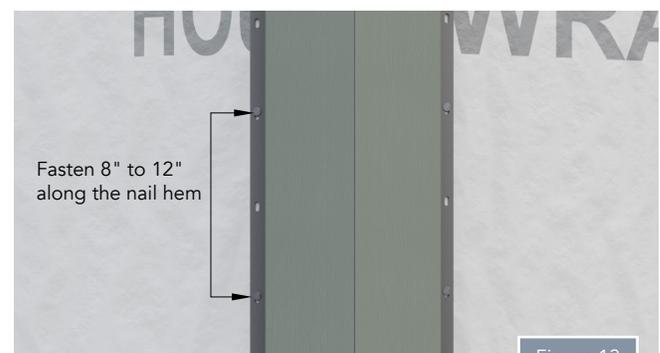

Figure 13
- Once the PVC glue has cured, attach the casing to the wall every 8" to 12" along the nail hem using galvanized, stainless, or corrosion-resistant nails or screws (Figure 13).